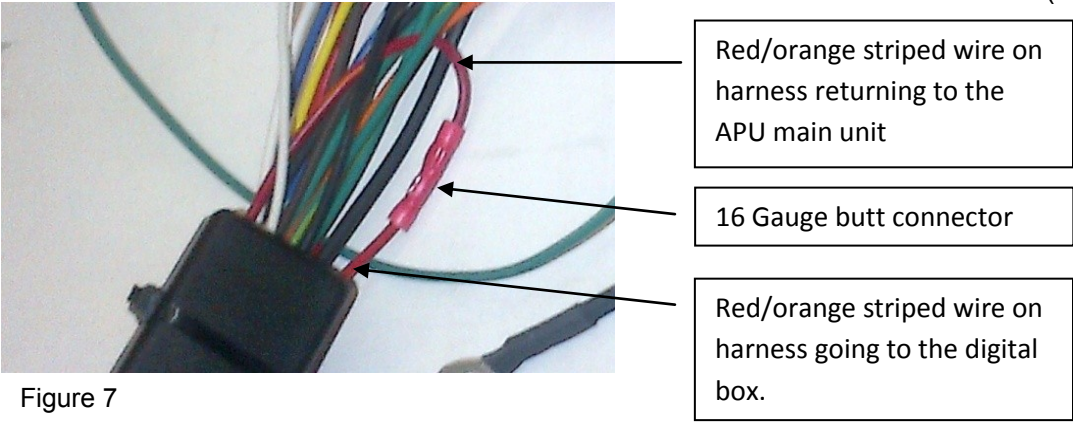

Figure 7
- 1- Locate red and orange striped wire on the J4 connector pin # 7 (speed signal ground). Cut the red and orange striped wire about 6" down from the connector and connect red and orange striped wire from digital speed sensor box to red and orange striped wire going to the APU main unit with butt connector (Figure 7)
- 2- Neatly tie wrap the digital sensor module to the harness. (Figure 7)